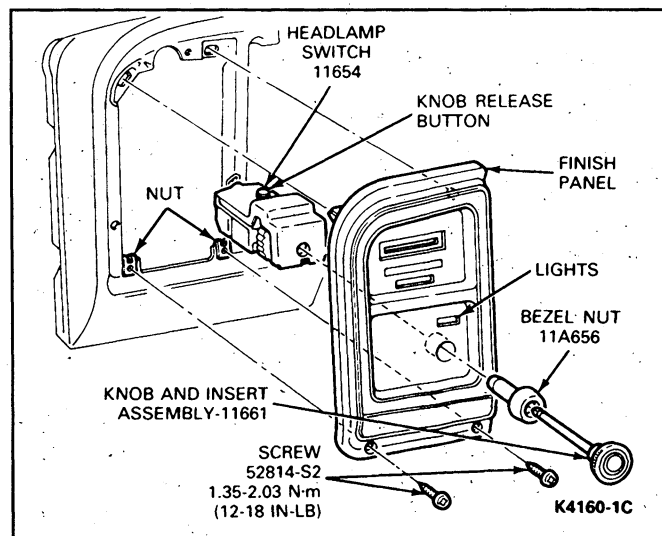

FIG. 9 Headlamp Switch Installation—E-150—E-350
2. Remove the headlamp control knob and shaft by pressing the knob release button on the switch housing (Figs. 1 and 9), with the knob in the full ON position. Pull the knob and shaft assembly out of the switch. Unscrew the mounting nut or bezel nut. Remove the switch, then remove the wiring connector from the switch (Fig. 9).